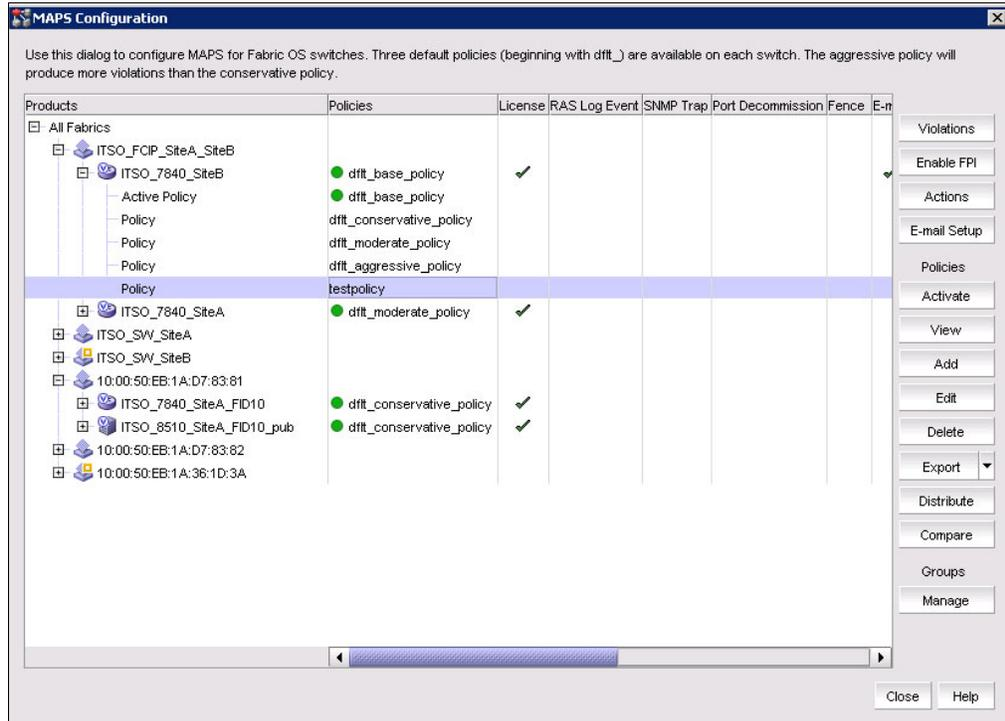

Figure 7-8 Active MAPS policy
2. Select an inactive policy in the list and click **Activate** (Figure 7-8 on page 222). The inactive policies have no green indicator on the left.